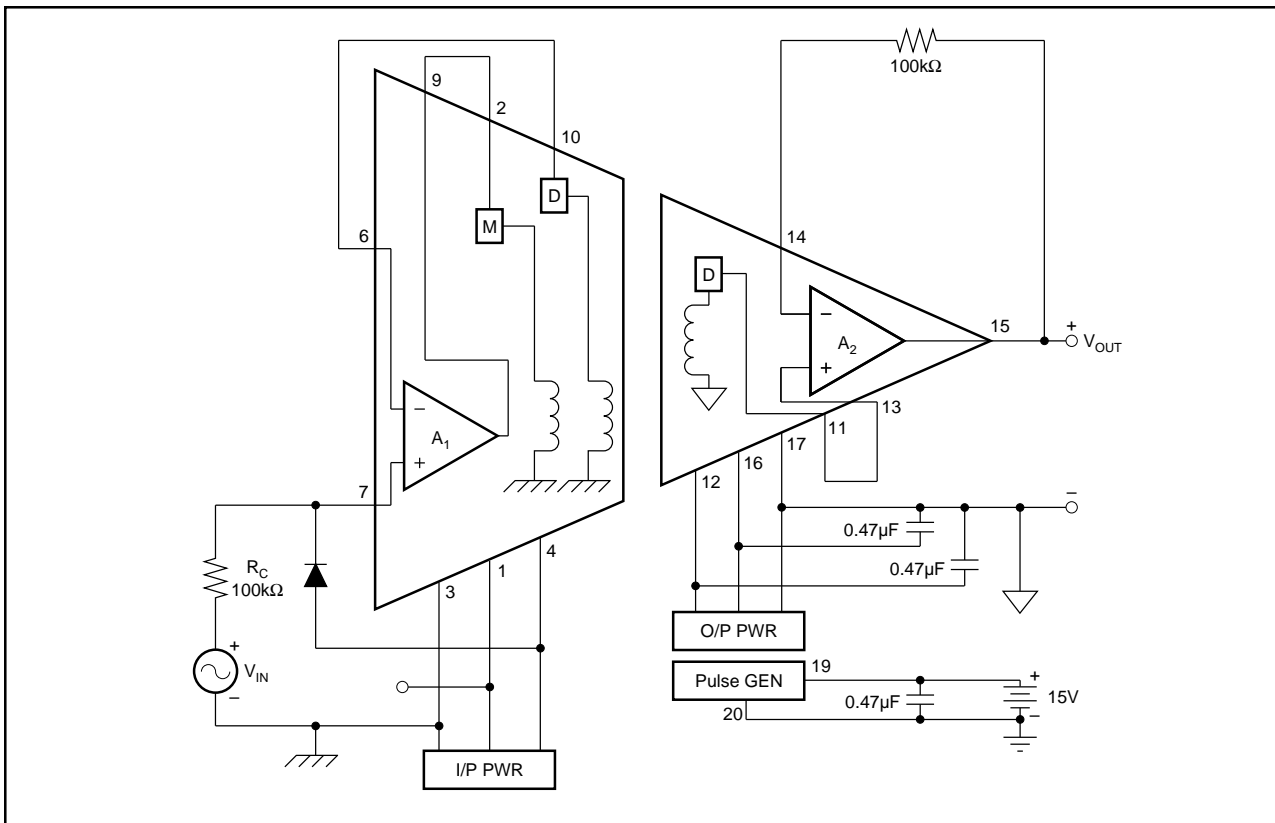

FIGURE 2. Power: Three-Port Isolation; Signal: Unity-Gain Noninverting.
5. The input voltage at pin 7 (noninverting input to  $A_1$ ) must not exceed the voltage at pin 4 (negative supply voltage for  $A_1$ ) in order to prevent a possible lockup condition. A low leakage diode connected between pins 7 and 4, as shown in Figure 2, can be used to limit this input voltage swing.
NOTE: Figures 2, 3 and 4 are used to illustrate both signal and power connection configurations. In the circuits shown, the power and signal configurations are independent so that any power configuration could be used with any signal configuration.
The power supply connections in Figure 2 show the full three-port isolation configuration. The system has three separate grounds with no galvanic connections between them. The two external  $0.47\mu\text{F}$  capacitors at pins 12 and 16 filter the rectified isolated voltage at the output stage. Filtering on the input stage is provided by internal capacitors. In this configuration continuous isolation voltage ratings are: 3500V between pins 3 and 17; 3500V between pins 3 and 19; 1000V between pins 17 and 19.
The signal path portion of Figure 2 shows the 3656 is its simplest gain configuration: unity gain noninverting. The two  $100\text{k}\Omega$  resistors provide balanced resistances to the inverting and noninverting inputs of the amplifiers. The diode prevents latch up in case the input voltage goes more negative than the voltage at pin 4.